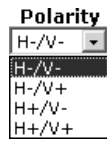

Figure 48. Polarity Drop Box
1. Click in the Polarity field. A drop-down box appears (see figure 48).